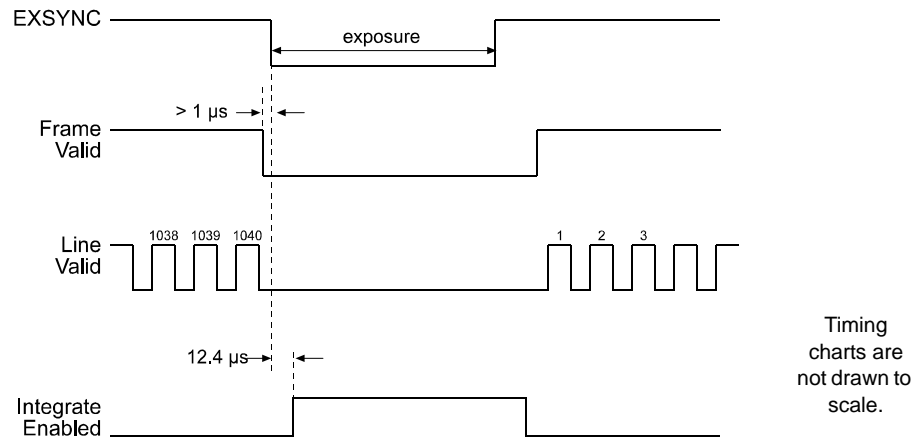

Figure 3-5: ExSync, Level-controlled Mode - Exposure Start with Frame Valid Low
- In case two (see Figure 3-5), the falling edge of ExSync occurs after the previously captured frame has been transmitted, that is, when frame valid is low. This will occur when the frame rate is medium or low.
If the ExSync signal falls while frame valid is low as shown in Figure 3-5:
As shown in Figure 3-5, FVAL **must** be low for at least 1 μs before the ExSync signal falls.